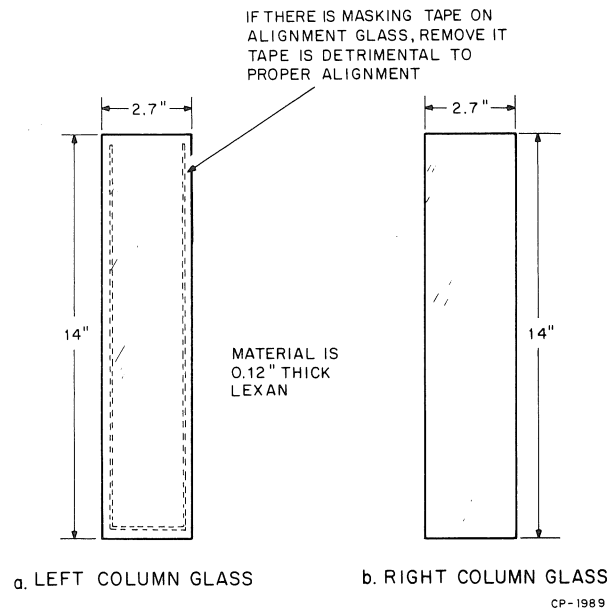

Figure 5-45 Alignment Glass
11. Load a good quality tape using the alignment glass (Figure 5-45). It will be necessary to hold glass doors with one hand while pressing "load" with other. (See Figure 5-46.)